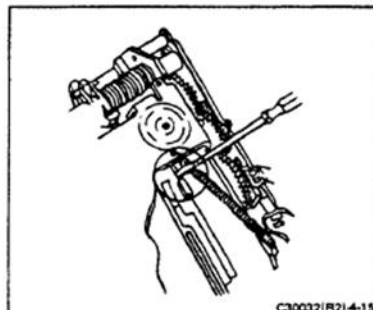

FIGURE 4-15 RELEASE BOOT RETAINER TAB
- b. Refer to Figure 4-15. Use a narrow-blade jeweler's screwdriver. While pulling the corner of the mirror cover away from the frame, depress the boot retainer tab to clear the retaining stud. Release the pressure as soon as the tab snaps free.